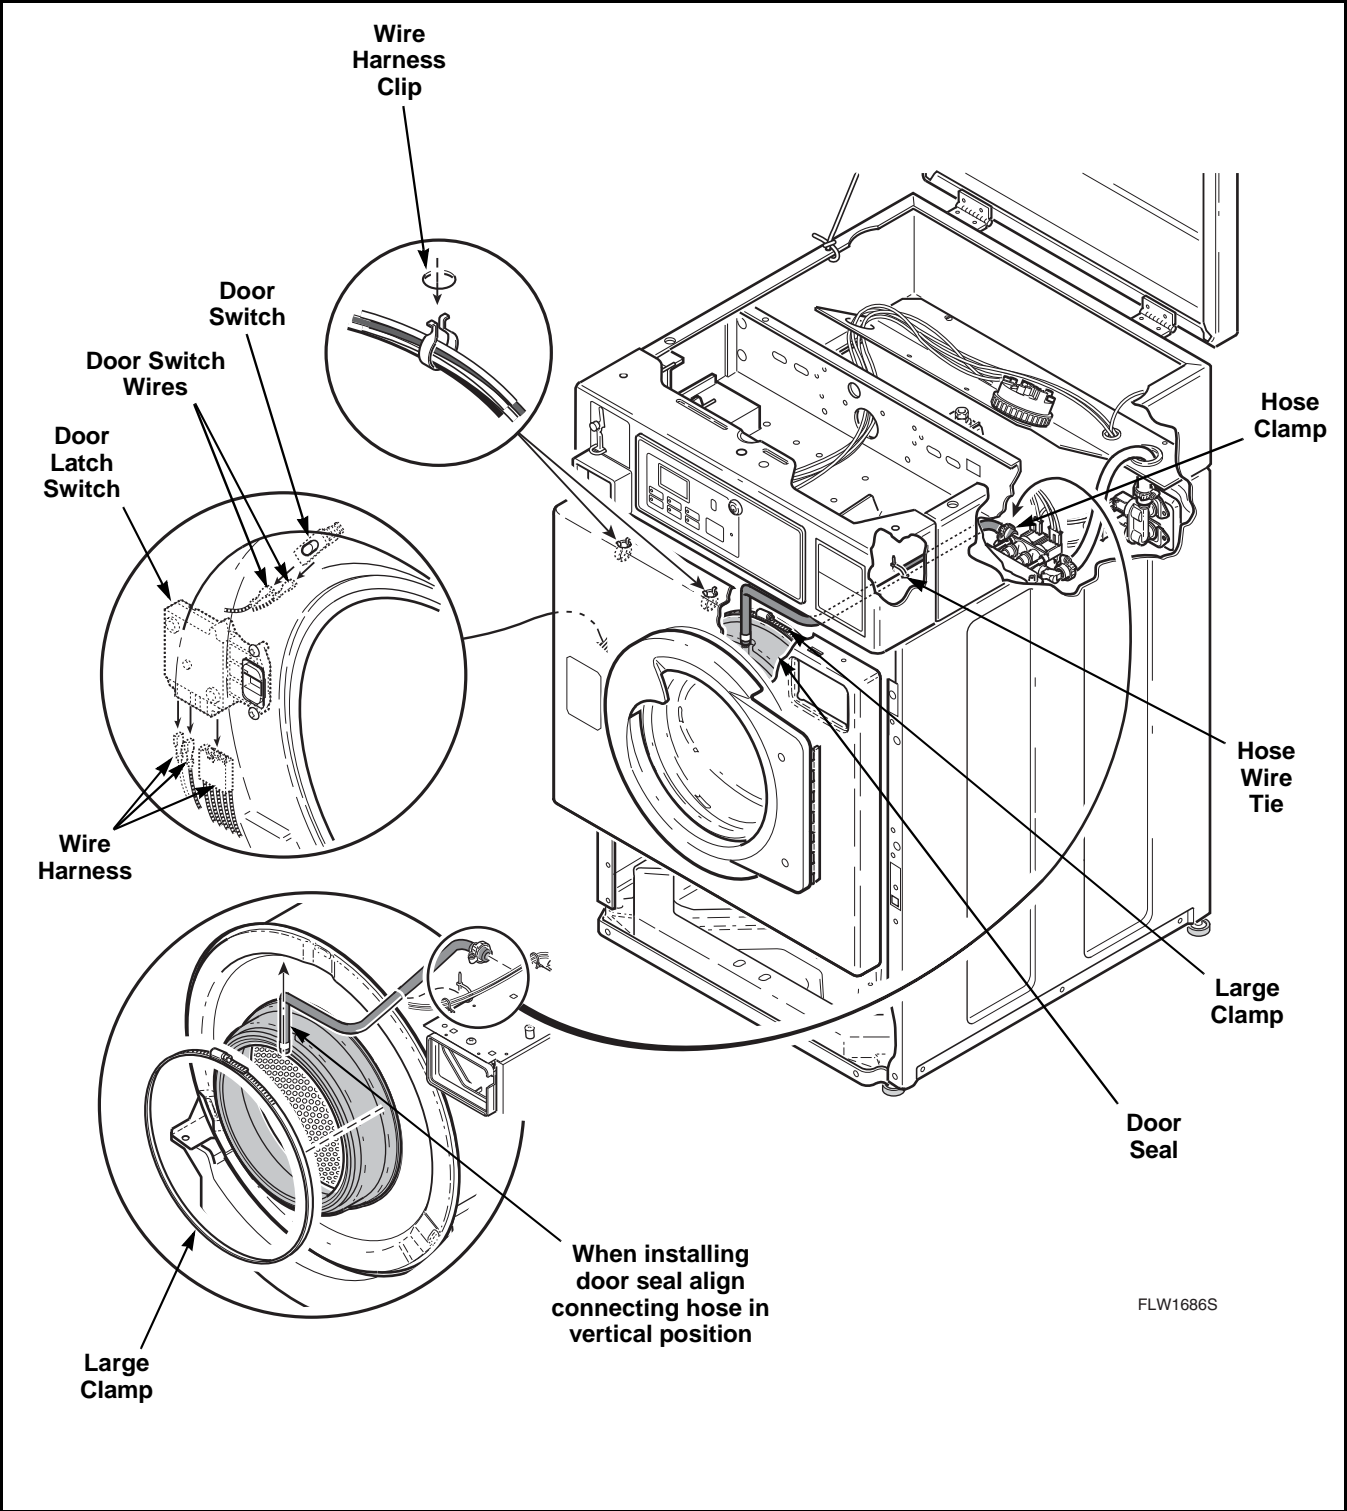

Figure 48
- j. Unplug wire harness from both the door latch switch and from the door switch. Refer to *Figure 48*. Remove clips holding wire harness and door seal hose along top flange of front panel and remove front panel.
**NOTE:** Door seal hose and wire harness must be reinstalled in the appropriate clips and holes along top flange of front panel. Refer to *Figure 48*.
- i. Unplug wire harness from both the door latch switch and from the door switch. Refer to *Figure 48*. Remove clips holding wire harness and door seal hose along top flange of front panel and remove front panel.
**NOTE: The large wire clip holds both the wire harnesses and the door seal hose. Refer to *Figure 48*.**
- l. Loosen hose clamp and remove dispenser valve-to-door seal hose connection at the dispenser. Refer to *Figure 48*.
**IMPORTANT: When installing door seal hose, pull hose tie tight to prevent damage. Refer to *Figure 48*.**
- m. Loosen large clamp holding door seal to front of outer tub. Carefully pull seal off front lip of outer tub front panel and remove door seal and hose. Refer to *Figure 48*.
- f. Reach up between door seal and front panel. Refer to *Figure 48*. Press in on switch locking tabs and push switch out through front panel only far enough to allow removal of wires from switch terminals.
- f. While supporting door lock from the back (through door opening), remove two Phillips head screws holding door latch switch to front panel. Refer to *Figure 48*.
- g. Gently pull door lock out through door opening. Remove door lock only far enough to disconnect harness connector from door lock. Refer to *Figure 48*.
- (7) Unplug wire harness from both the door latch switch and from the door switch. Refer to *Figure 48*. Remove clips holding wire harness and door seal hose along top flange of front panel and remove front panel.